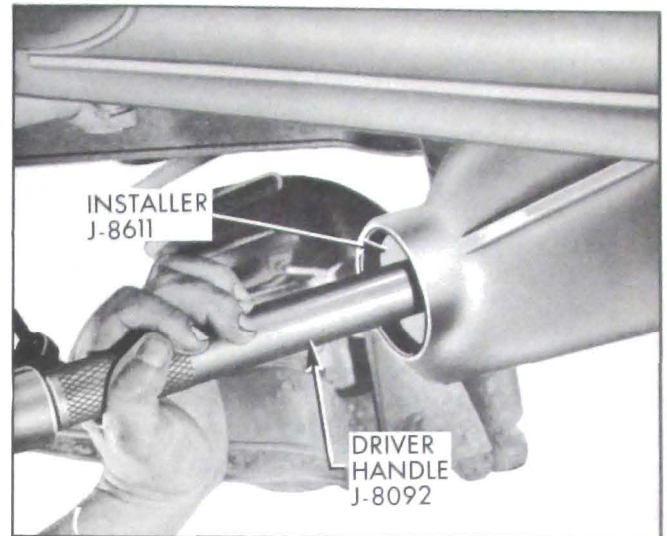

Figure 6-22—Installing Front Pinion Bearing Outer Race
2. If front pinion bearing is to be replaced, install new outer race using Installer J-8611 with Driver Handle J-8092. See Figure 6-22.
5. Reinstall rear pinion bearing on pinion with new thickness shim. See Figure 6-22.